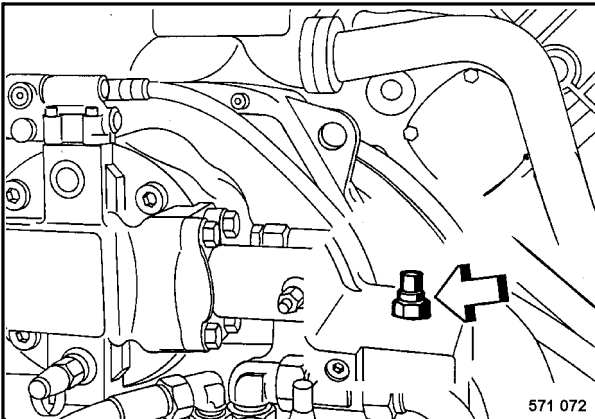

Fig. 35
- Clean the breather filter and screw it back in (Fig. 35).